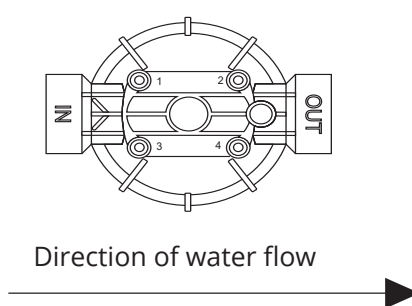

Fig. 2 Filter head - top view
- Screw the mounting bracket into openings 1, 2, 3 and 4 of the filter head using four metal screws (Fig. 2).